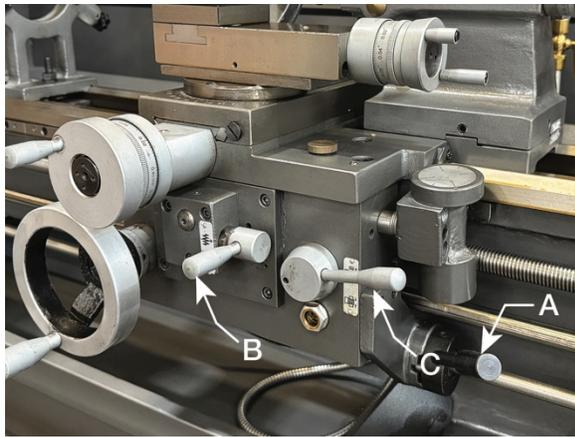

Figure 13-3
1. Move the forward/reverse selector (A, Figure 13-3) up or down depending on desired direction.
4. Push Feed Axis Selector Lever (B, Figure 13-3) to the left and down to engage crossfeed. Push lever to the right and up to engage longitudinal feed.
Push Feed Axis Selector Lever (B, Figure 13-3) to the left and down to engage crossfeed. Pull lever to the right and up to engage longitudinal feed.
3. Make sure the feed axis selector (B, Figure 13-3) is disengaged (neutral position) before engaging the half nut engagement lever. There is an interlock mechanism between the auto-feeding and the thread-cutting half-nut engagement.
4. If cutting Imperial threads, read the threading dial indicator and engage the half nut engagement lever (C, Figure 13-3) by moving